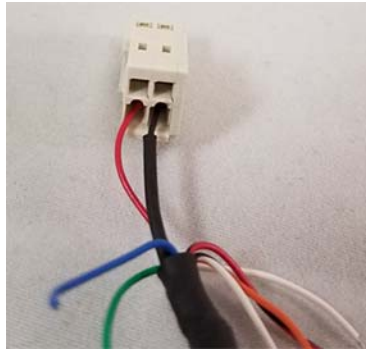

Figure 2-16. Wires Fully Inserted into Terminal Plug
9. The red and black wires should now be securely inserted into the plug, as shown in Figure 2-16: